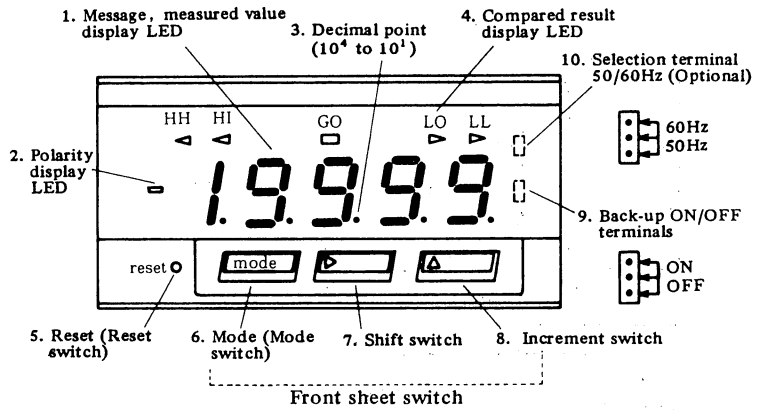

Fig. 8
First, remove the front panel in accordance with Item 4.1.2, then short the terminals at the upper right of the numeric display LED to set it. (See Fig. 8.)
* Turn on the back-up battery with the power always applied. (See Fig. 8).